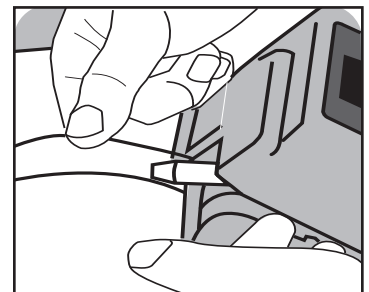

Figure 4
3. Slide the Air Channel over the end of the Air Fill Tube. (See Figure 4)